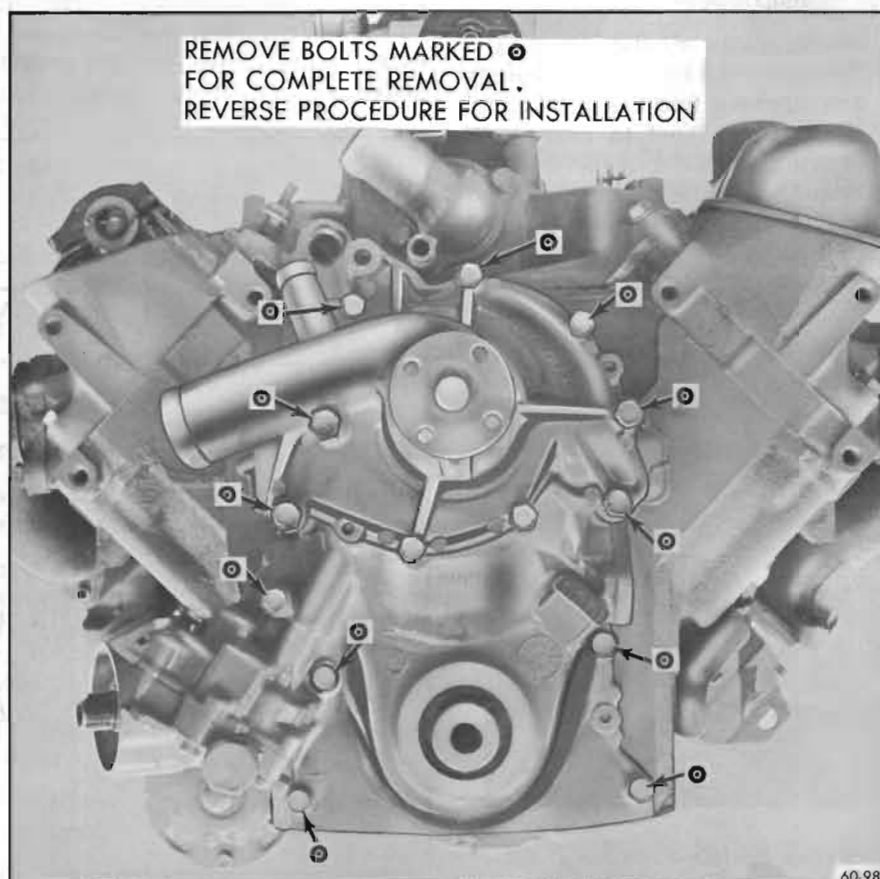

Figure 60-98—Timing Chain Cover Installation
4. Lubricate the bolt threads before installation and install as shown in Figure 60-98.